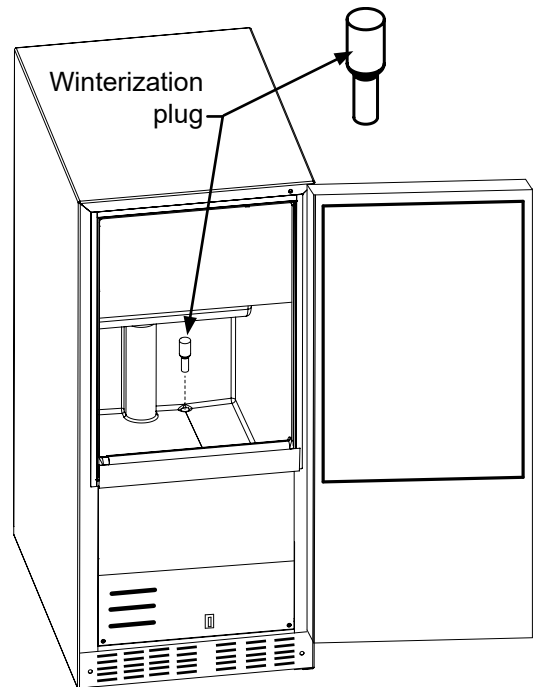

Figure 43
13. Install the winterization plug in the water drain hole inside the ice bin. (See Figure 43).